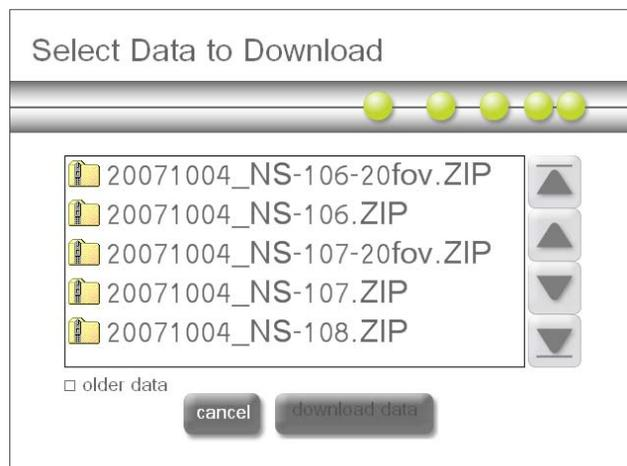

Figure 2.38 The Select Data to Download screen
>>> The Select Data to Download screen appears (Figure 2.38).
- a. In the Select RCC Source screen (Figure 2.38), select the older data option box (located below the file selection area).